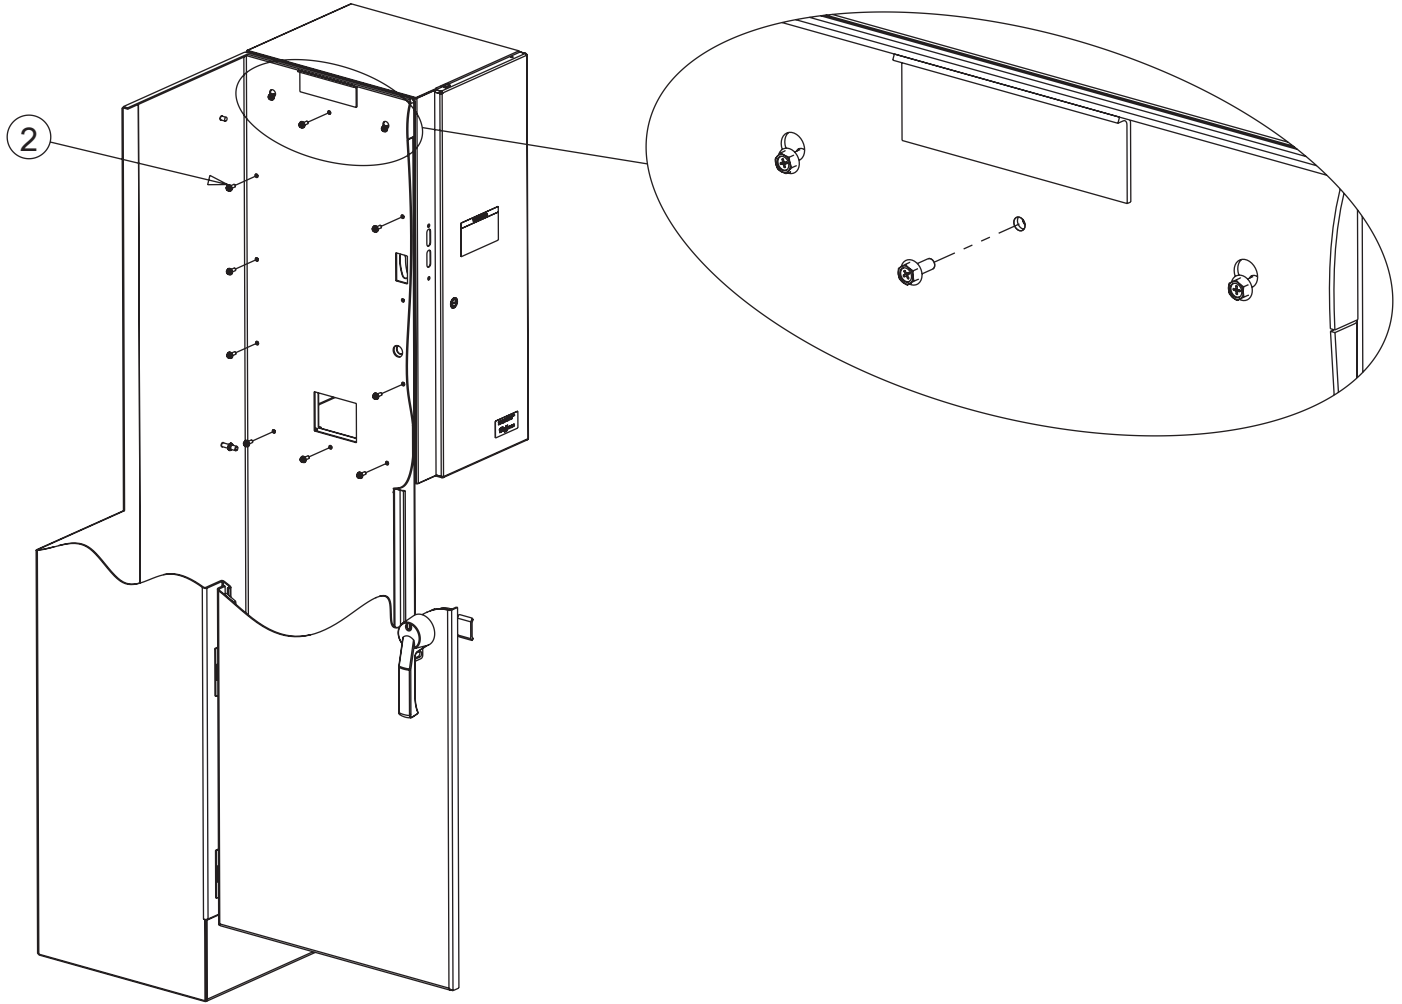

Figure 1B
- Referring to Figure 1B, hang the Sequestr enclosure on the side of the control enclosure by inserting the two bolts into the slotted holes in the side of the control enclosure.